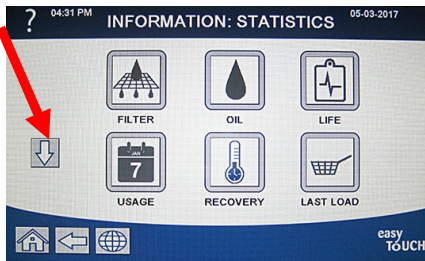

Figure 17
14. Press the down arrow button (see Figure 17).